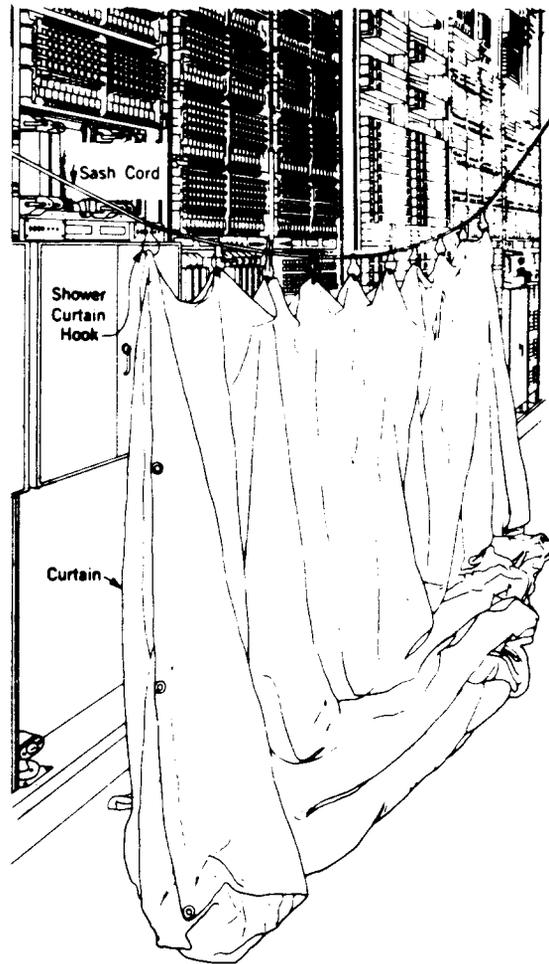

Fig. 2—Curtain Hung at Crossbar Frame
**4.04** Pass the free ends of the sash cords through the pulleys, and then temporarily fasten the cord ends so that the cords will assume the position displayed in Fig. 2. Attach the curtains to the sash cords by means of shower curtain hooks connected to the eyelets in the center sections of the curtains. Locate the curtains so that the openings for the two exhauster sets will be at the end opposite to the one where the cleaning will start.